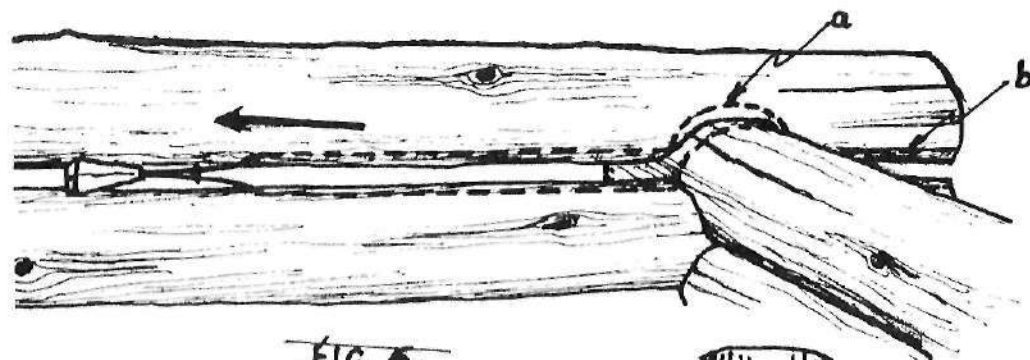
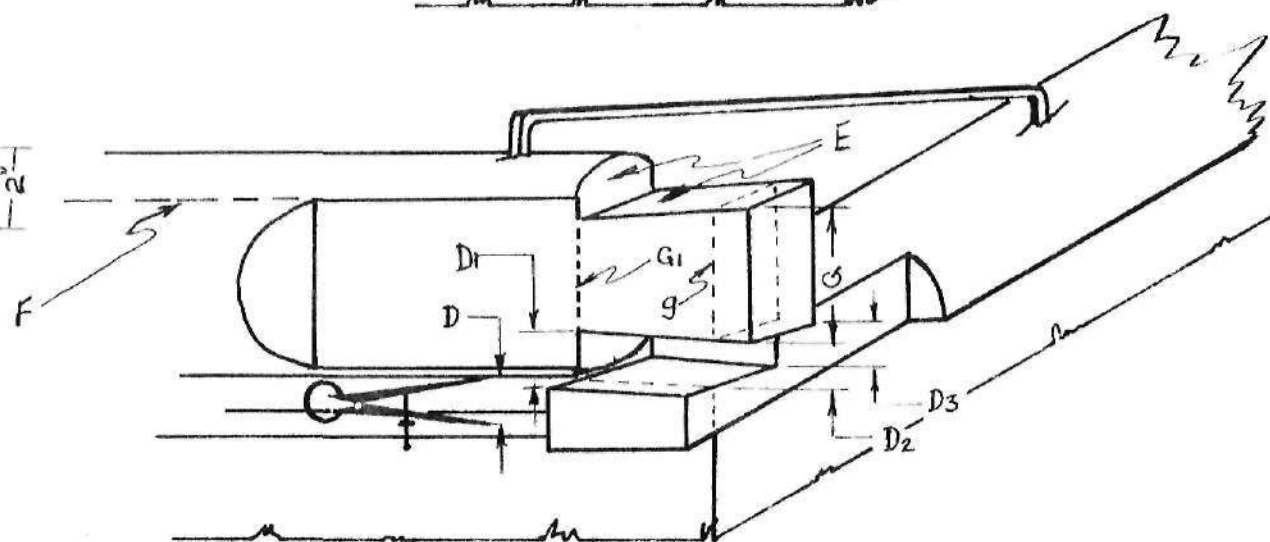

FIG. 5.
FIG. 4
A flat foundation is suggested for dry locations, to keep the building close to the ground. This may have a slab floor as illustrated in Fig. 5 on the opposite page, or a footing as in Figs. 1, 2, or 3. A generous overhang will keep moisture away from the sloped wall. End walls may have 4 or 5" extra height added to them to meet the bottom of the end logs which will be higher than the side logs.
The scribe points are set to the widest space showing between two logs. The cutting points are kept vertical, that is, directly above one another and the handle is held in as perfect a horizontal position as you can manage. The scribed line is carried up over the notch in the case of a round notch (a, Fig. 5) and on to the end of the log (b, Fig. 5) that extends past the wall. Scribe both the inside and the outside of the log. Use the divider ends for marking around the
When the ends have been flattened, turn the log belly up and in the exact position relative to the final position it is to occupy (Fig. 4) and secure it in place with a log dog. The hewn face must be truly vertical. By means of a pair of dividers, determine the distance the log is to be lowered (at each end) to meet the foundation (D, Fig. 4). Carefully transfer this measurement to the positions D1, D2, D3, and D4 (on the inside corner) and join these points with a pencil line on the hewn face of the log (for example, D1 to D2 and D3 to D4). When this has been done on each end of the log, the log may be turned over and the cut made. If the layout has been done with accuracy, the corner will show an excellent fit. Slight irregularities can be corrected by slipping the tip of a hand saw into the joint and working off any excess wood.
When the log is resting in place, the top cuts may be made (E, Fig. 4). Draw a plumb line ("g", Fig. 4) on the outside of the log and measure back the wall width (GI). Mark off about 1/2 the log diameter on this outside corner (G) then mark off the sloped line. To obtain uniformity in this, a template, as illustrated in Fig. 5, will be useful.
If the builder wishes to hew the logs flat for their full length, either inside or out or both, now is the time to do it. A chalk line may be snapped onto the top of the log between the flattened ends (F, Fig. 4). The single plane wall surface obtained this way is suited to a building constructed of large logs. Many solid and beautiful examples of hewn log buildings still exist in British Columbia, some of which are 150 years old. Shown here is the main trading post of the Hudson's Bay Company at Fort St. James, constructed in the French method of piece-en-pièce. The meat cache is done in the same style. I include here a glimpse of a roof at Batoche, Sask., the only other example I have seen of this way of finishing the eaves. Of historical interest is the fact that the original trading post and meat cache were built under the North West Co. fur traders from Montreal, of which Alexander Mackenzie and Simon Fraser were partners. In 1821 when the Hudson's Bay Co. absorbed the Nor'Westers, a clerk's house was added to the Fort St. James establishment and this building (dovetail corner pictured on page 37) was built by a Scot using quite a different style. All three of the remaining structures are in remarkably good repair considering the lack of concern shown by governments toward what was once the chief fur trading post in New Caledonia and the onetime residence of James Douglas who was later to become British Columbia's first Governor.